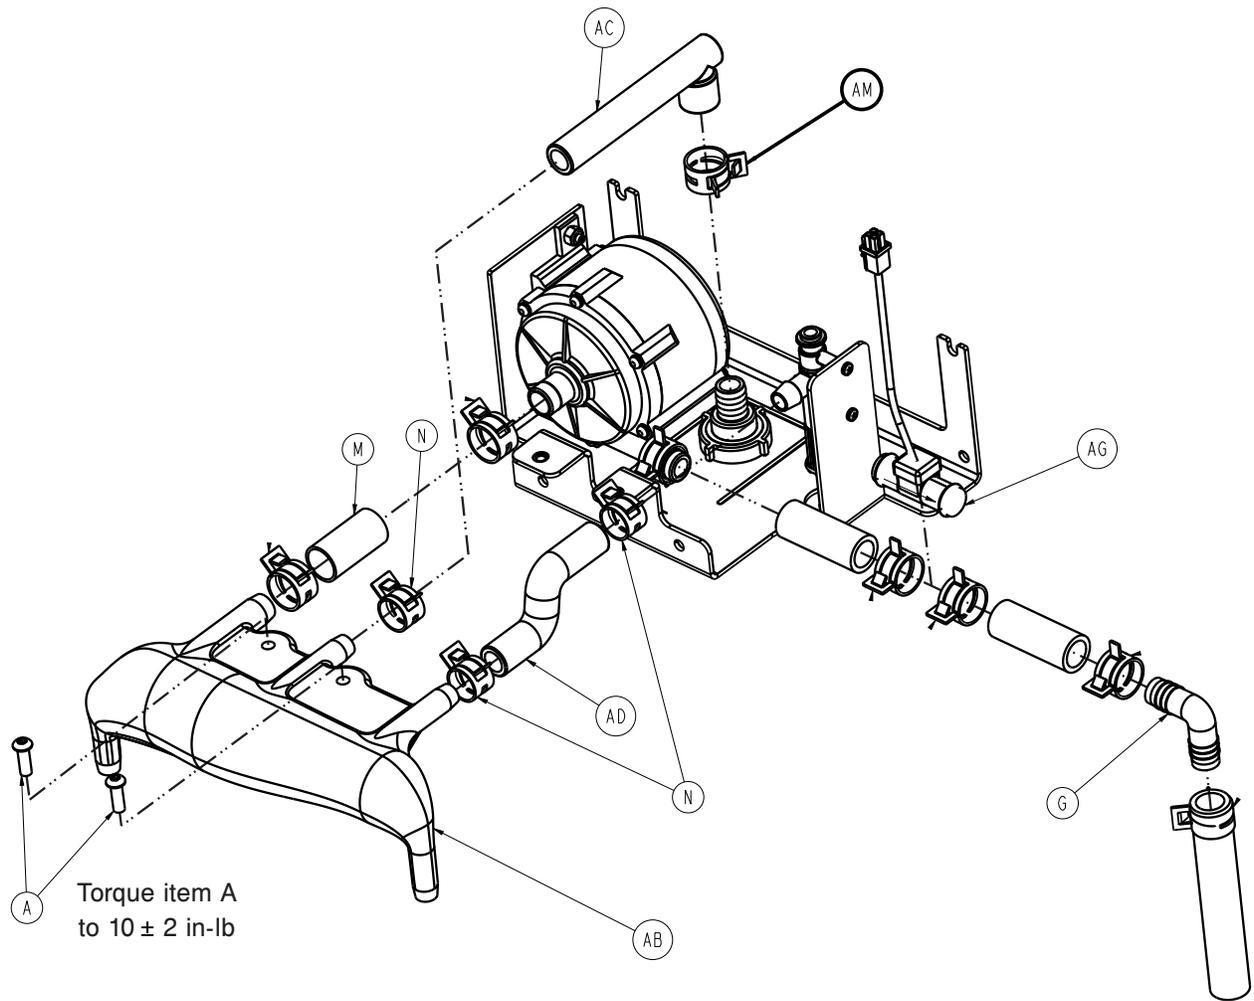
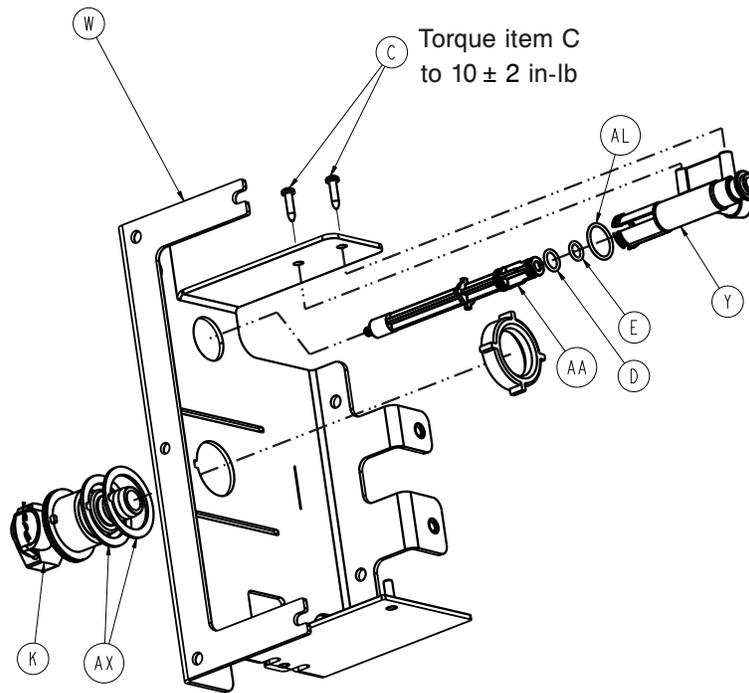

Figure 15 – Hose clamp
Figure 16 – Coupling
3. Using needle nose pliers, squeeze the hose clamp (AM) (Figure 15) that secures the tube to the coupling (K) (Figure 16).